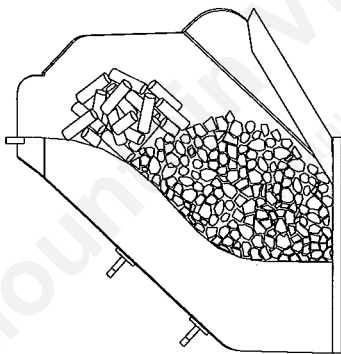

Fig. 17
3. **Add desired starting material** (crushed charcoal, wood pellets, or manufactured coal starting block) over the remaining holes. See Figure 17. Wood pellets are shown in Figure 17.